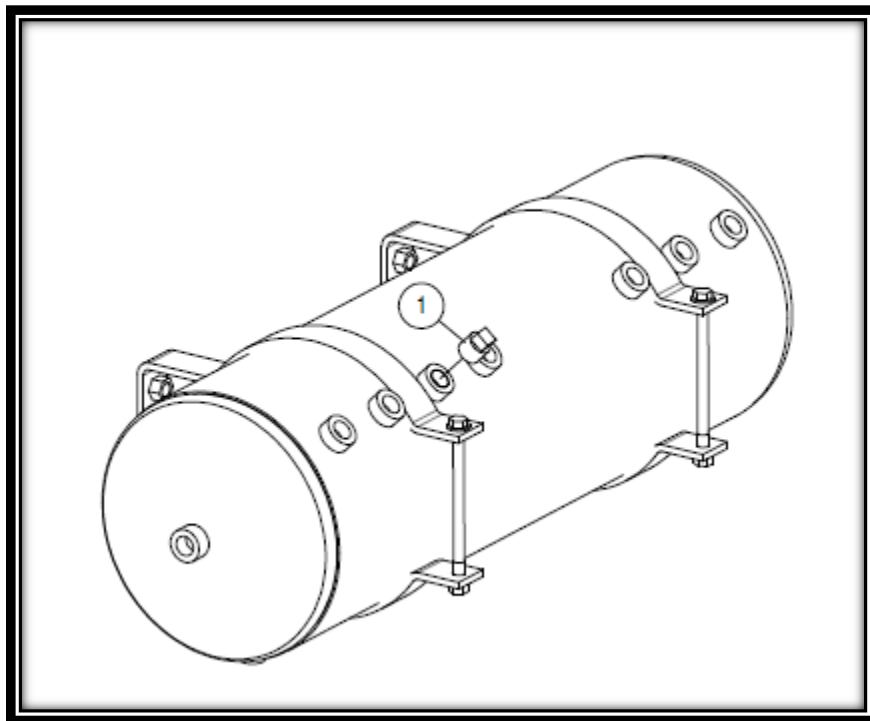

FIG 5.1
12. If there were additional air lines plumbed in same port as pump shift air supply reinstall those fittings into port. If there were no other air lines installed in air tank port install 0716-MM5-K04 (Item 1) into empty port. Refer to Fig 5.1